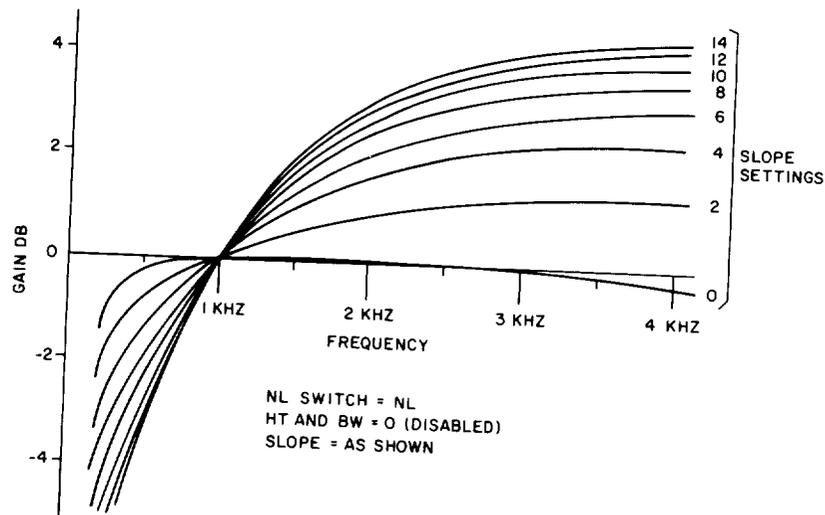
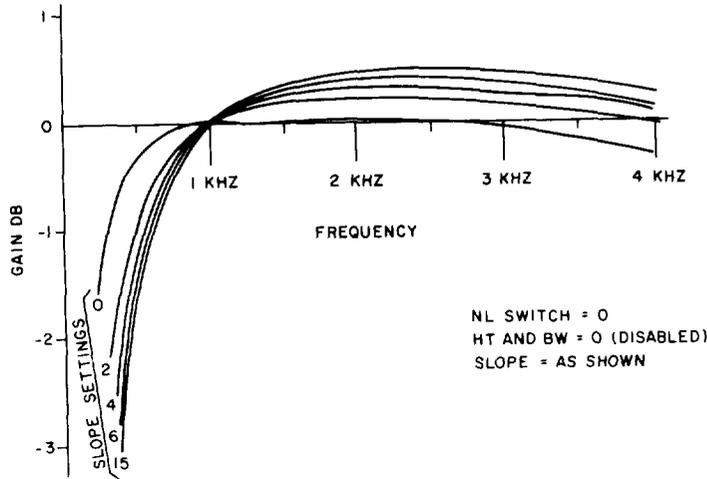
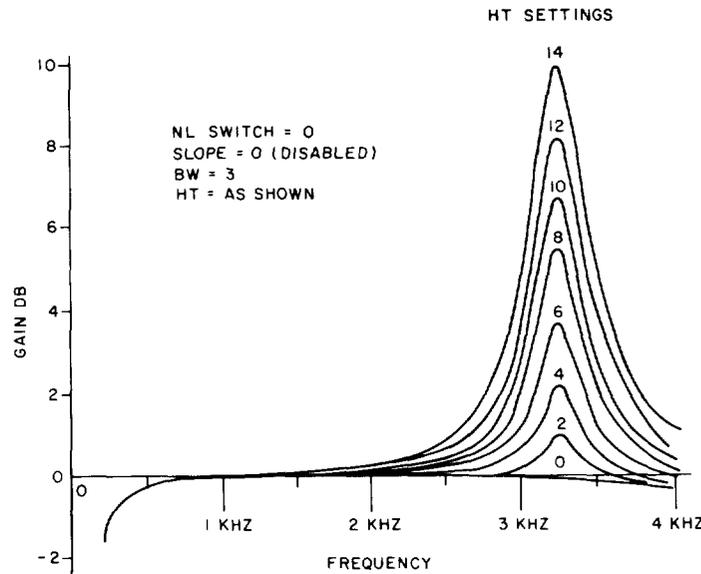
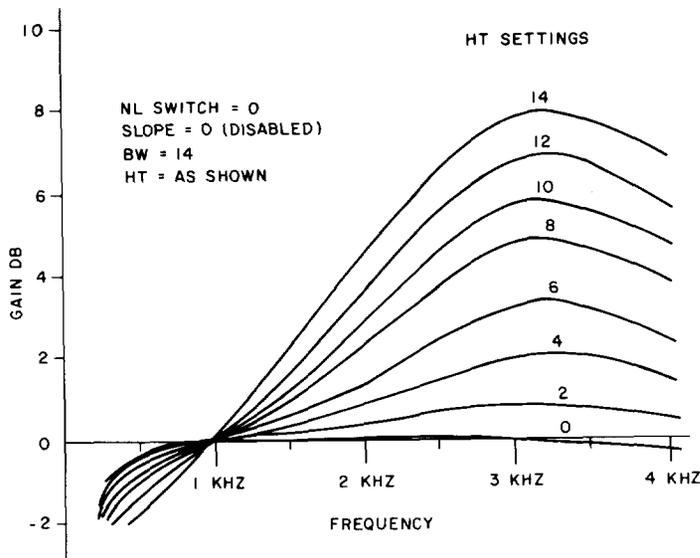

Fig. 8—Equalizer Gain-Frequency Response—Slope = Variable, NL = NL
Fig. 9—Equalizer Gain-Frequency Response—Slope = Variable, NL = 0
Fig. 10—Equalizer Gain-Frequency Response—BW = 3, HT = Variable
Fig. 11—Equalizer Gain-Frequency Response—BW = 14, HT = Variable
6.02 Figures 8 through 11 give the frequency response of the gain and equalizer units. Figure 8 gives the response curves for various SLOPE settings with the NL switch set to interface nonloaded cable. Figure 9 provides response curves for the same SLOPE settings with the NL switch set to interface loaded cable. Figure 10 gives the response curves for various HT settings with the BW switch at a small setting. Figure 11 gives the response curves for the same HT settings with the BW switch at a large setting.